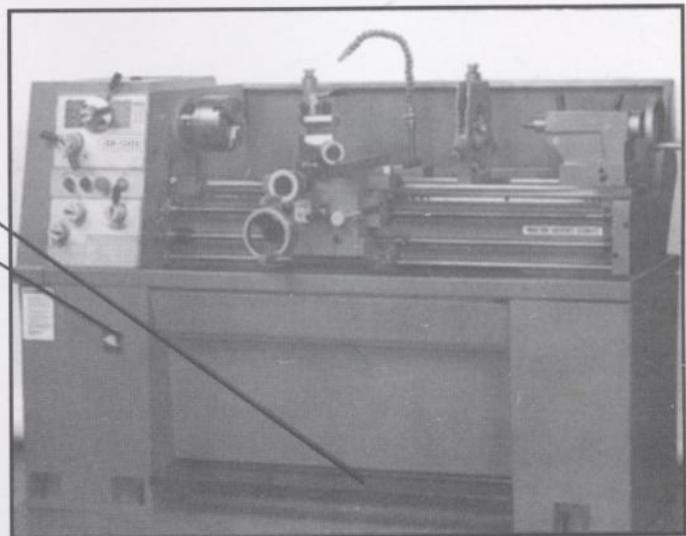

Fig.14
21. Foot Brake (A, Fig. 14)- located between stand pedestals. Dwpres to stop all lathe functions.
23. Two Speed Motor Swith (B, Fig.14)located on front of the left base pedestal. Position one is for high speed. Position two is for low speed. Position zero is neutral and the spindle will not turn. **Note:**Check this switch and make sure position one or two is selected if the lathe will not run.